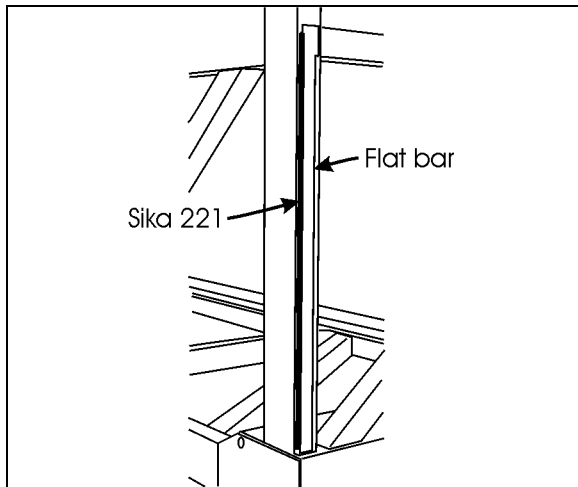

FIGURE 43 : SIDE PANEL INSTALLATION – SIKA 221 APPLICATION ON STRUCTURE
4. Inspect the Sika bead at the intersection of the corner vertical member and the flat bar as shown in FIGURE 43. if it is damaged, remove adhesive residue and apply a new 3mm diameter bead of Sika 221;